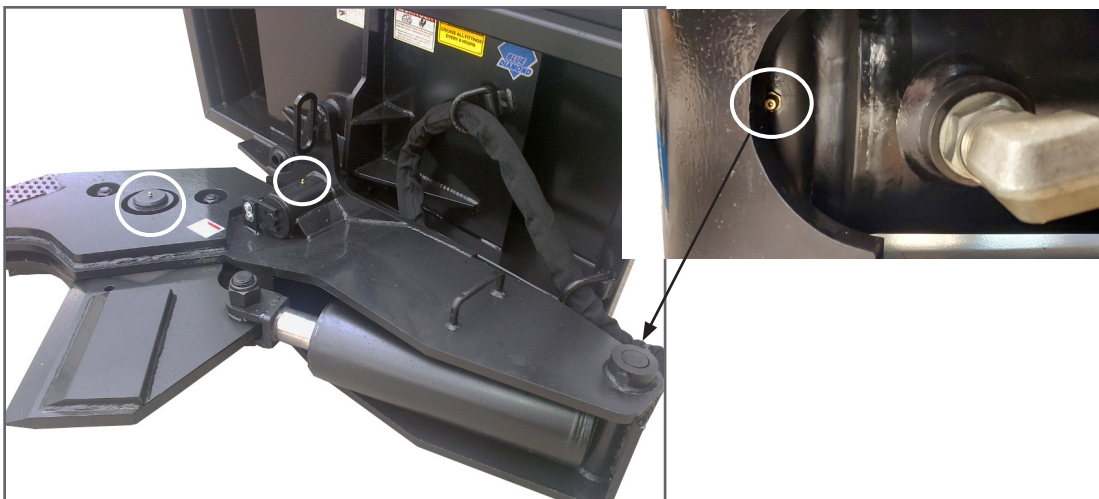

Figure 1
*See "Figure 1" on page 15 for greasing locations.